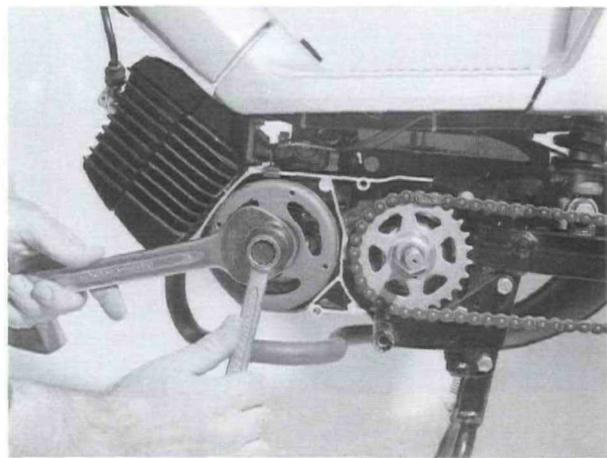

Fig. 13
- flywheel (wrench 32 and 19, flywheel extractor=special tool 732.746=fig. 13)